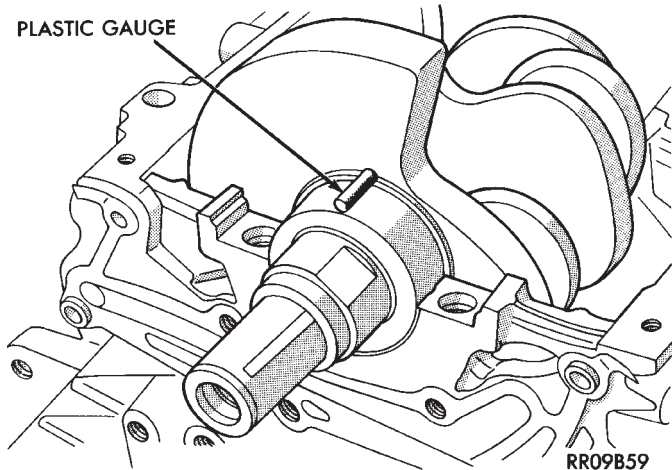

Fig. 15 Measure Oil Clearance with Plastigage
- (1) Remove oil from journal and bearing shell.
- (2) Install crankshaft.
- (3) Cut plastigage to same length as width of the bearing and place it in parallel with the journal axis (Fig. 15).
- (4) Install the main bearing cap carefully and tighten the bolts to specified torque.